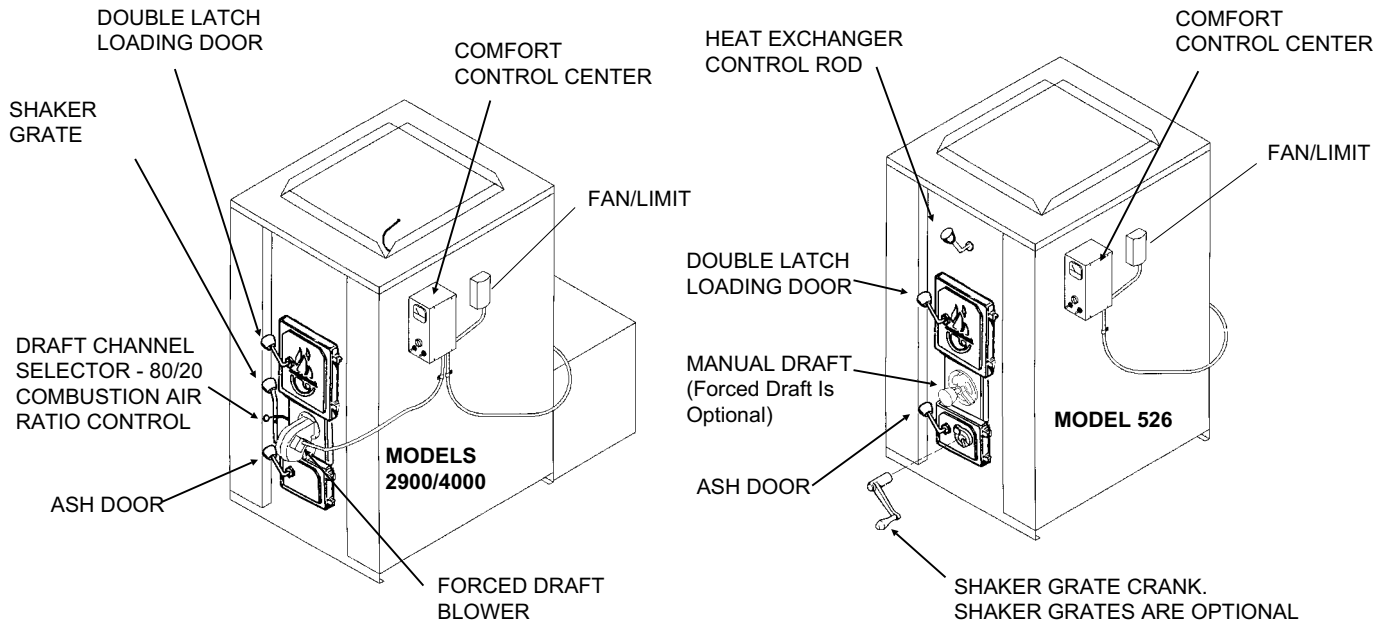

FIGURE 5 WOODCHUCK CONTROLS
1. Adjust draft channel selector, figure 5, to appropriate fuel setting on model 2900/4000. On Model 526 with manual draft, open it. Place several pieces of crumpled paper in the center of your Woodchuck. Criss-cross a couple of handfuls of dry kindling wood 3/4" thickness, then several small dry pieces of firewood. Ignite the paper and close the door. Do not attempt to open the door immediately after igniting the fire. There could be a flame flash out.
First thing is to check that your main blower and draft blower are in proper working order before lighting a fire. To check main blower, push button on fan/limit control for manual override testing. When finished, reset to automatic position, figure 5. Next, turn thermostat upstairs to high temperature so draft blower turns on.